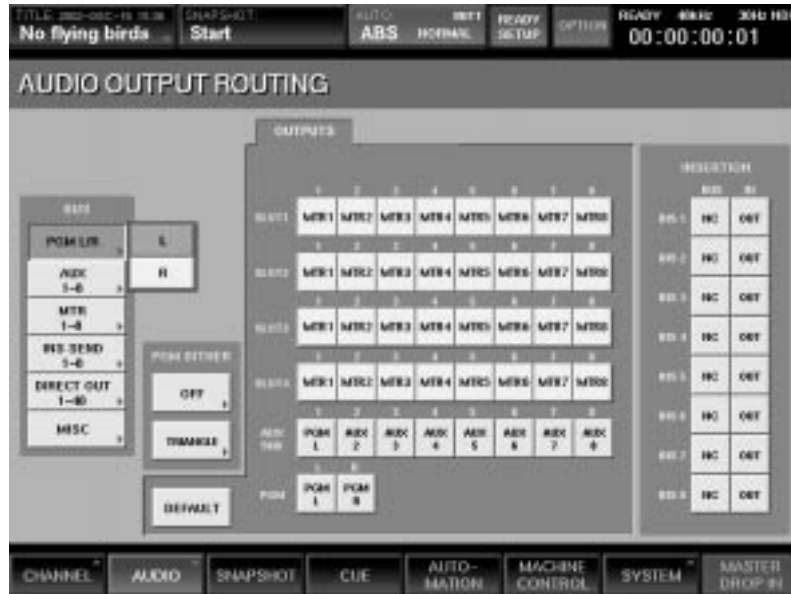

Figure 20
- To complete the patching, press an OUTPUT button in the center of the screen to assign the selected bus to that physical output connector. For example, press the PGM L button, and then press Aux Send 1. The left PGM bus output will now appear at the physical Aux Send 1 output connector. (See Figure 20)